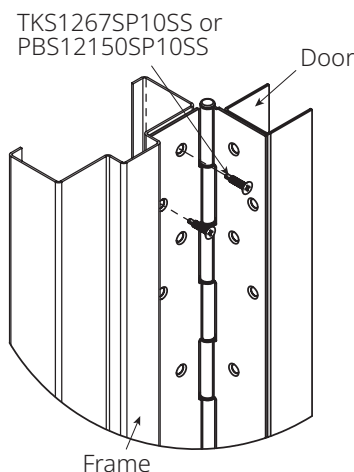

Figure 5
- Attaching hinge to frame (Fig. 5):